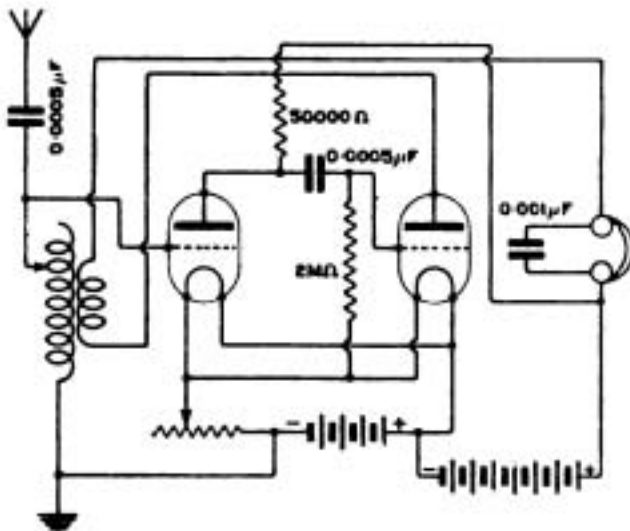

Fig. 1.
J.F.B. (Middlesbrough) asks (1) for a criticism of a circuit. (2) If it is possible to receive the Dutch concerts on the set, crystal only. (3) If it is possible to receive C.W. on a crystal.
- (1) O.K., if you do not short circuit the part of the A.T.I. not in use at any time.
- (2) No, not sensitive enough.
- (3) Only by putting an interruptor of tikker type in place of the crystal. Fair results can be obtained in this way with a good deal of trouble. We think it would pay you better to use a valve circuit.
"PUZZLED" (Birmingham) points out discrepancy between Fig. 1 and Table 1, of pages 262 and 263, of July 23rd issue, and asks (1) the reason. (2) Dimensions for a honeycomb coil of 1,000 mhys. (3) Formula for capacity of an air condenser. (4) Ditto for a glass dielectric.
- (1) The values in Table 1 are by mistake ten times too big.
- (2) Approximately 6 cms. diameter, 2.5 cms. long and with 120 turns of wire on it.
- (3) and (4)
(2) See Fig. 1.
(3) Possible, but in a set of this type L.R. telephones with a transformer are better.
(4) Single layer solenoids will certainly be best for both coils. The reaction coupling for telephony is very critical.